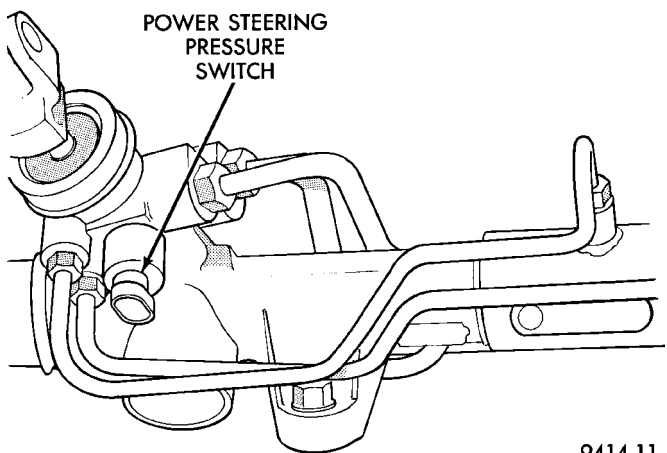

Fig. 47 Power Steering Pressure Switch
(20) Check the electrical connection at the power steering pressure switch on the power steering gear housing (Fig. 47).